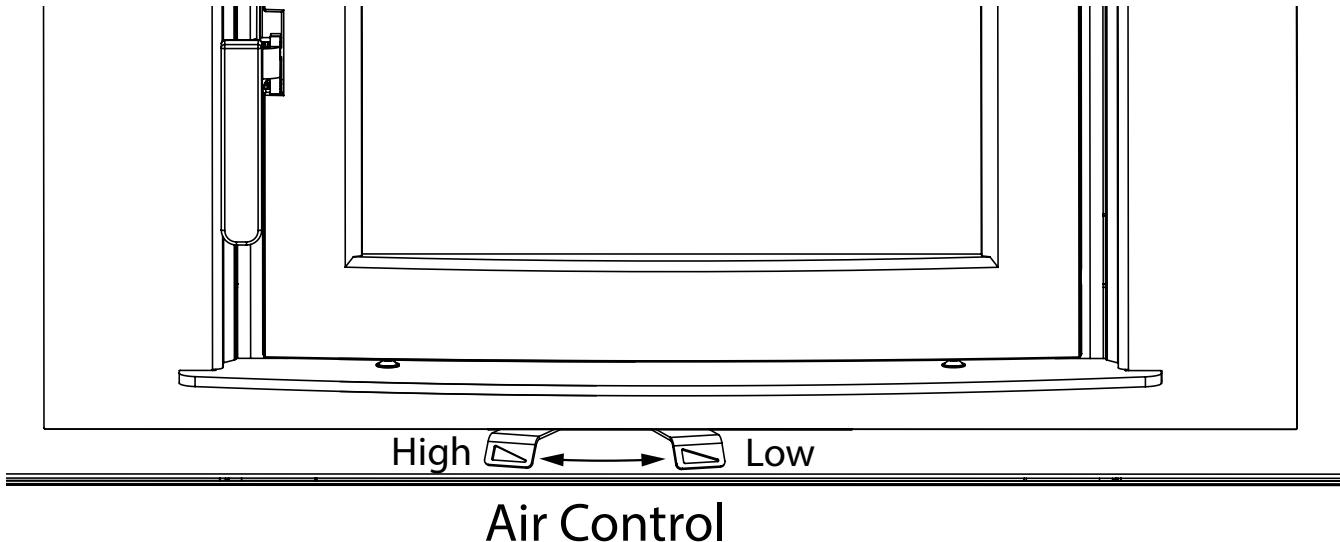

Figure 1: FP16 LE Air Control.
1. Adjust the Air Control, located under the Ash Shelf, all the way to the left to the "High" position.(Figure 1).
1. Set the heat output to a desired setting by moving the Air Control(Figure 1) between the High and Low stops. If smoke pours down across the glass (waterfall effect) this indicates you have shut the control down before the fire was fully established after loading or you are using too low a setting to quickly. The wide control range makes finding the desired setting for your application easy. Every home's heating needs vary due to insulation, drafts, climate, etc. The proper setting can only be found by trial and error and should be noted for future burns.
2. To refuel, adjust the Air Control(Figure 1) to the "High" position (all the way to the left), and give the fire time to brighten. Open the door slowly, this will prevent backpuffing or the flame rolling out of the door opening.